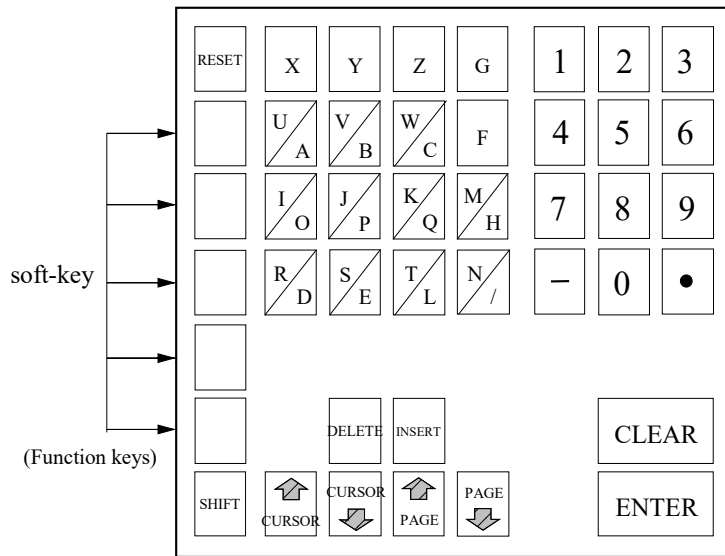
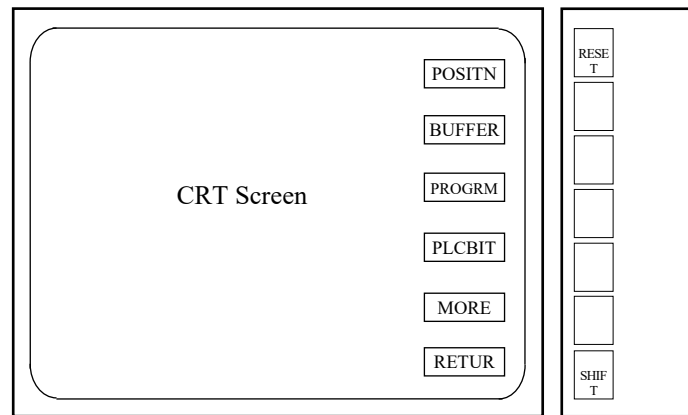

Fig 5-1 HUST 11-series Panel Keys
Fig 5-2 Function Keys (Soft-keys)
Fig 5-1 shows HUST 11-series panel keys arrangement. Except those on the left-hand most column, all the keys are for data input, program edit, MCM parameters input, etc. The keys on the left-hand most column are function keys (soft-keys) whose functions are displayed on the CRT screen as shown in Fig 5-2. HUST 11-series has a total of 34 soft-key functions which are spread over nine (9) pages.